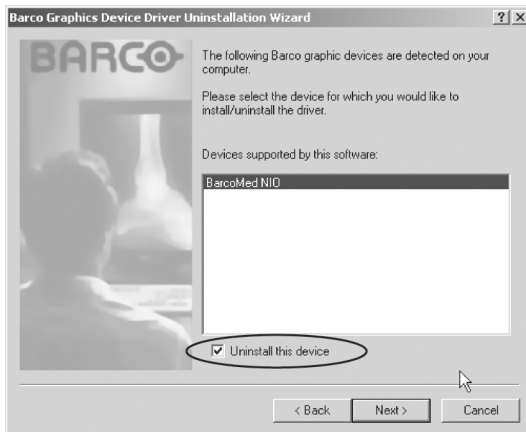

Figure 52
5. On the next screen (see figure 52 on page 110), **check** the checkbox next to "Uninstall this device" and click **"Next"** to continue.